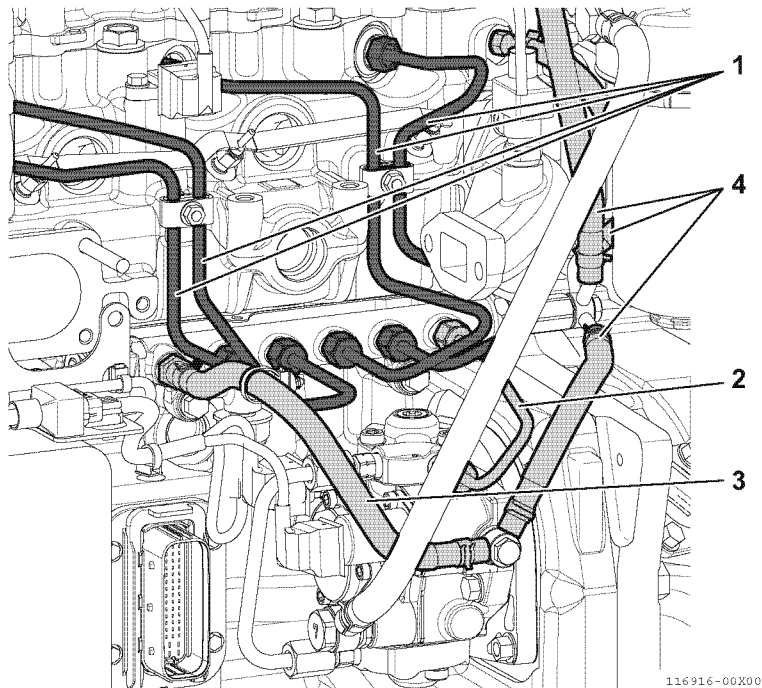

Fig.50-11
Remove the high-pressure lines between the injectors and common rail (1, Fig.50-11) and between the common rail and supply pump (2, Fig.50-11).
Remove the fuel return hose (3, Fig.50-11) of the rail pressure reduction valve, and the three fuel return hoses (4, Fig.50-11) connected to the pressure limiter hose joint.
- 1 - Install the fuel return hose (3, Fig.50-11) of the rail pressure reduction valve, and the three fuel return hoses (4, Fig.50-11) that are connected to the pressure limiter hose joint.